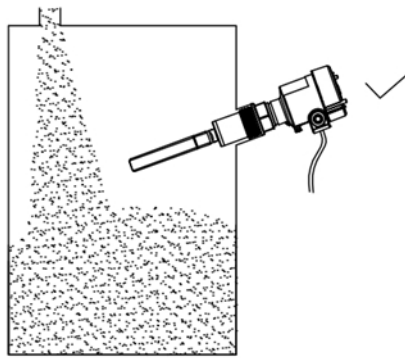
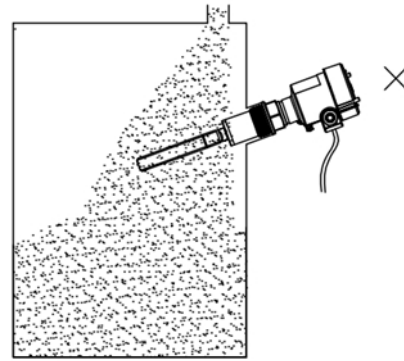
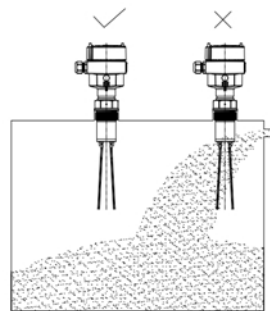

Fig.3
Fig.4
Fig.5
- For horizontal installation, the surface of the fork wing should be parallel to the movement direction of the measured material as in Fig.3.
- Please avoid installing the instrument near the inlet point so that the probe does not protrude directly into the filling stream. It will prevent the instrument from impact damage by the filling material and generating false signals. Fig.3 and Fig.4 are schemes to show the correct and wrong installation position respectively for horizontal installation. Fig.5 is a scheme to show correct and wrong installation position for vertical installation.